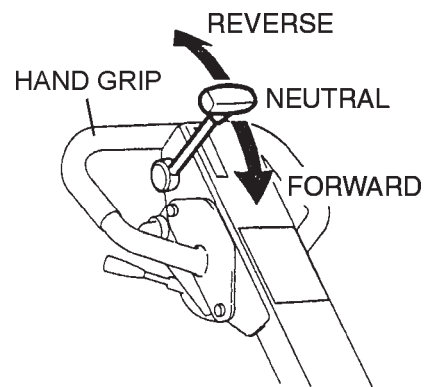

Figure 14. Direction Lever
3. To make the compactor move in the forward direction push the travel lever (Figure 14) forward.